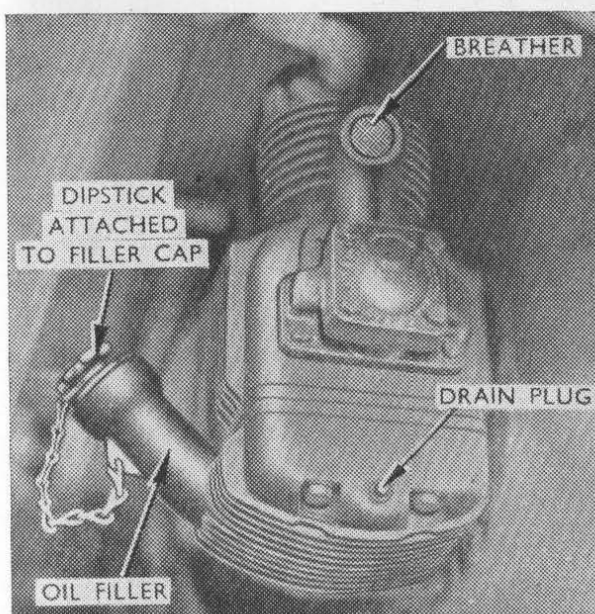

Fig. 37. Air Compressor.
(E) AIR COMPRESSOR. (Fig. 37).